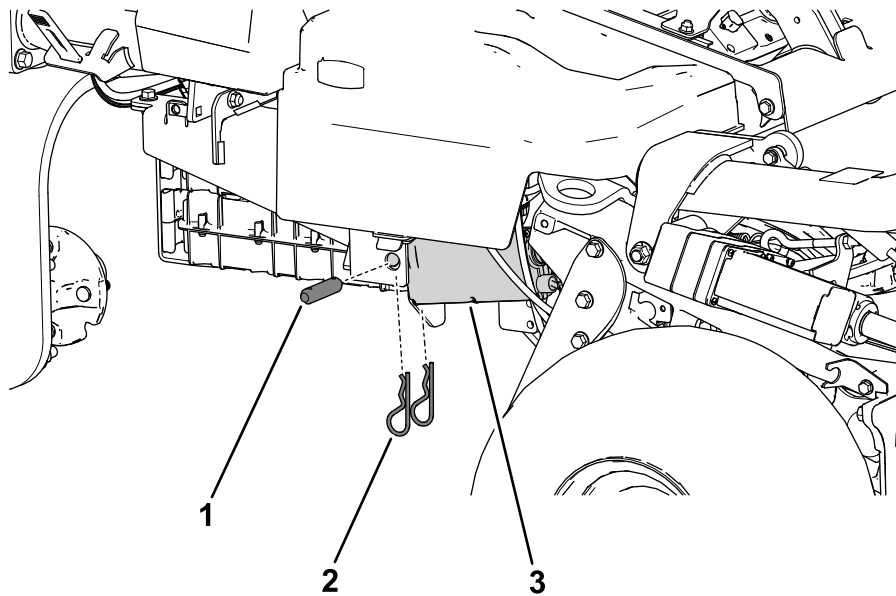

Figure 23
1. Use the previously removed cylinder pin and cotter pins to secure the brake actuator to the lower mount plate (Figure 23).